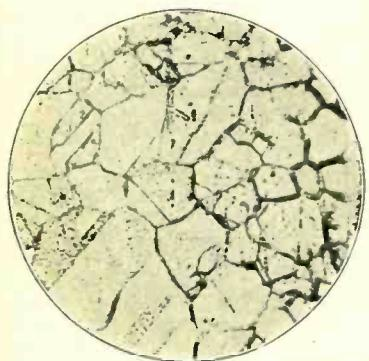

Fig. 1. A microphotograph of nickel that has been burned in a sulphurous atmosphere and which shows sulphur contamination along grain boundaries. Mag. 200.
ence of this gas are (1) that it is actually dissolved in the metal as in another gas or liquid, that is, that there is a mixture in molecular proportions, (2) that it is present in the body of the metal at grain boundaries only, being held by mutual electrical attractions of atomic or molecular proportions, (3) that it is condensed on the surface of the metal, probably also an electrical phenomenon. That there is intergranular penetration of gases in hot metals is readily demonstrated by the etched microsections of nickel burned in sulphurous atmosphere or tungsten burned in an oxidizing atmosphere. Microphotographs Figs. 1 and 2 are illustrations of this phenomenon.